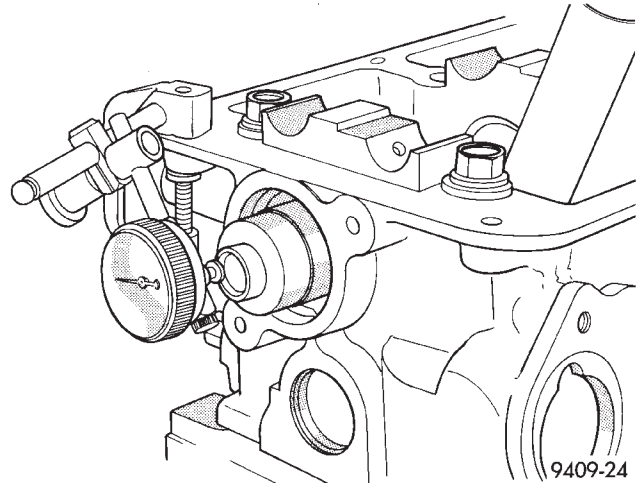

Fig. 31 Camshaft End Play
- (1) Lubricate the camshaft journals with oil and install camshaft **without** rocker arm assemblies installed.
- (2) Install camshaft target magnet into the end of the camshaft. Tighten mounting screw to 3.4 N·m (30 in. lbs.).
- (3) Install camshaft position sensor and tighten mounting screws to 9 N·m (80 in. lbs.).
- (4) Measure camshaft end play using the following procedure:
- Mount dial indicator C-3339 or equivalent, to a stationary point on cylinder head (Fig. 31).
- (5) Install front camshaft seal. Camshaft must be installed before the camshaft seal is installed. Refer to procedure outlined in this section.